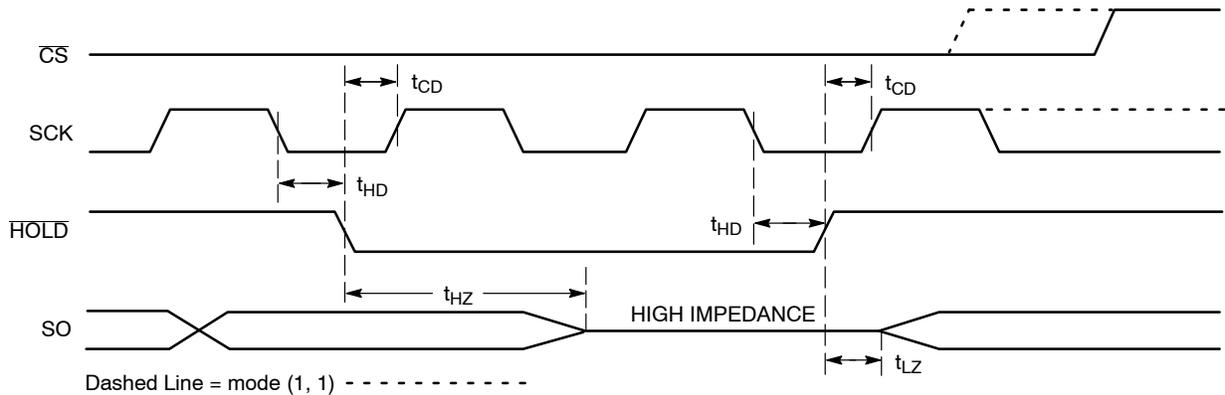

Figure 11. $\overline{\text{HOLD}}$ Timing
The $\overline{\text{HOLD}}$ input can be used to pause communication between host and CAT25320. To pause, $\overline{\text{HOLD}}$ must be taken low while SCK is low (Figure 11). During the hold condition the device must remain selected ($\overline{\text{CS}}$ low). During the pause, the data output pin (SO) is tri-stated (high impedance) and SI transitions are ignored. To resume communication, $\overline{\text{HOLD}}$ must be taken high while SCK is low.